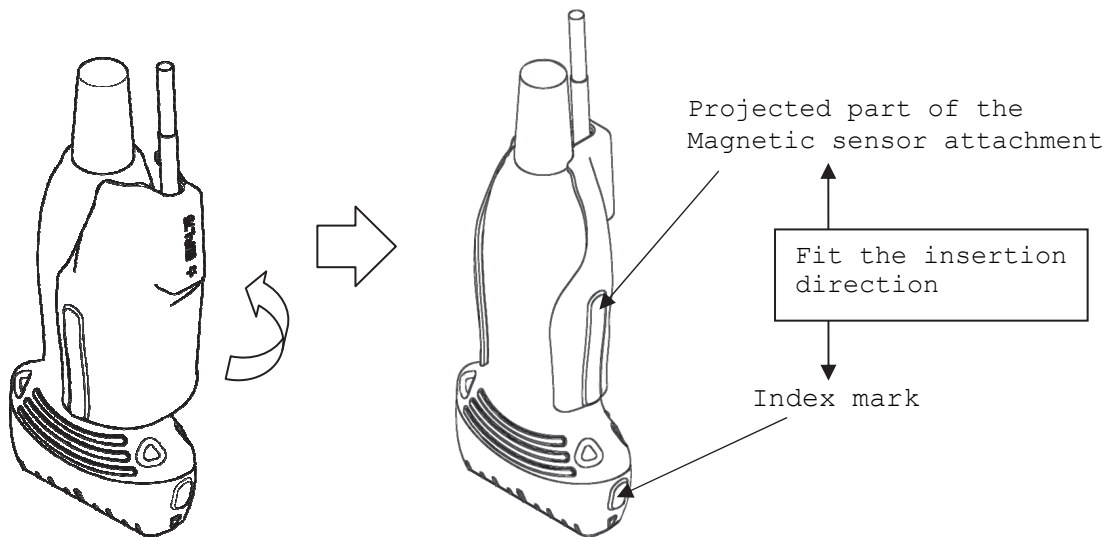

Fig. 8 How to attach the Magnetic sensor attachment
- b) Place the magnetic sensor attachment on the probe as shown in Fig. 8. Fit the projected part of the magnetic sensor attachment in the index mark of the probe.